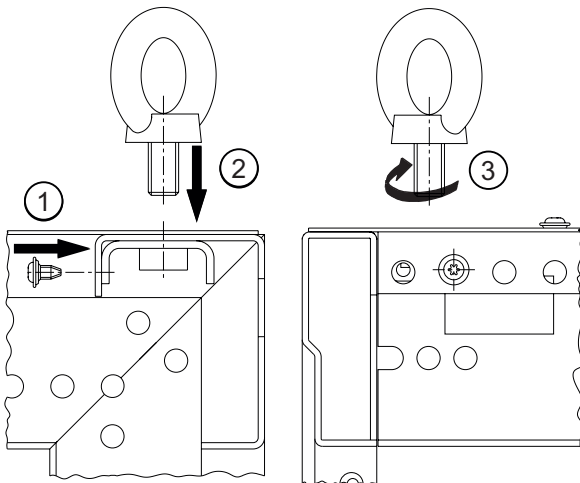

Fig. 1
- 1 Place the transport eyebolt brace in the adequate position in the cross member (see Fig. 1). Mount the brace with a PM 5x10 sheet metal screw.